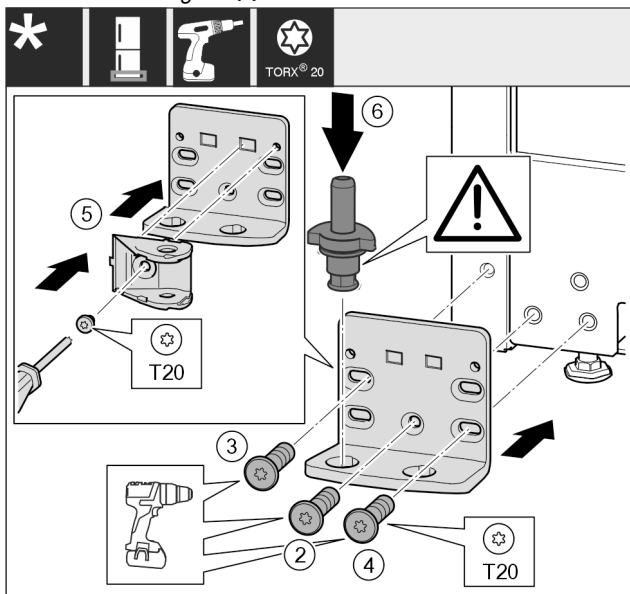

Fig. 32
- ▶ Place the swap bearing block on the other side and use a screwdriver to screw it on. Start with the screw Fig. 32 (2) at the bottom in the middle.
- ▶ Tighten screw Fig. 32 (3) and screw Fig. 32 (4).
- ▶ Turn the closing damper connection Fig. 32 (5) by 180°. Use screwdriver to screw it onto the other side of the swap bearing block.
- ▶ Insert the bearing bolt Fig. 32 (6) completely. Ensure that the latching cam is pointing towards the rear.